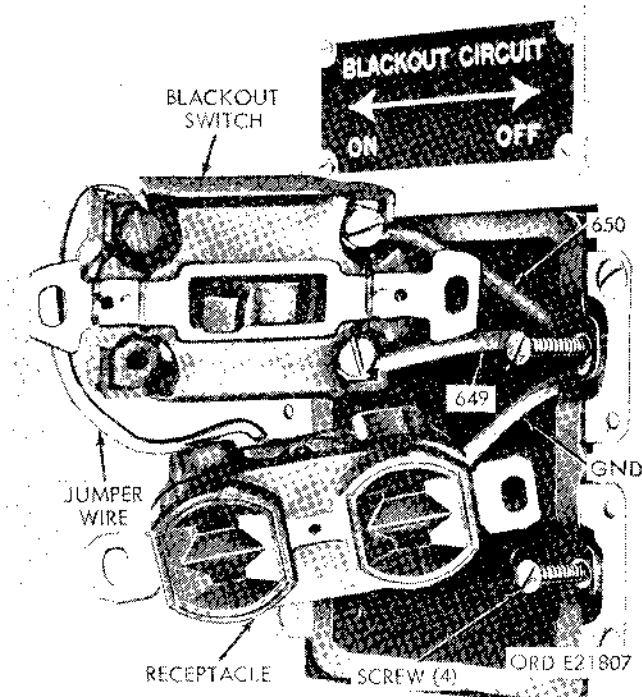

Figure 2-245. 110-volt receptacle and blackout switch.
*d. 110-Volt Receptacle and Blackout Switch (Fig. 2-245).*